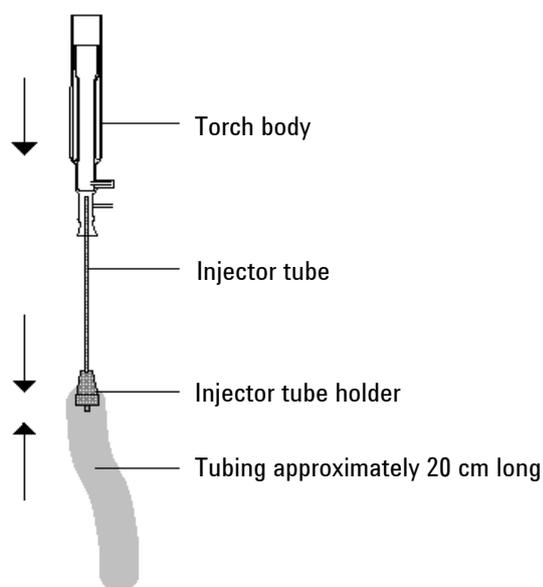

Figure 1. The demountable torch: the injector tube tip should be positioned approximately 3 mm below the top of the intermediate tube
- 1 Assemble the components of the demountable torch as depicted in Figure 1. (Refer to the demountable torch instruction sheet for details).